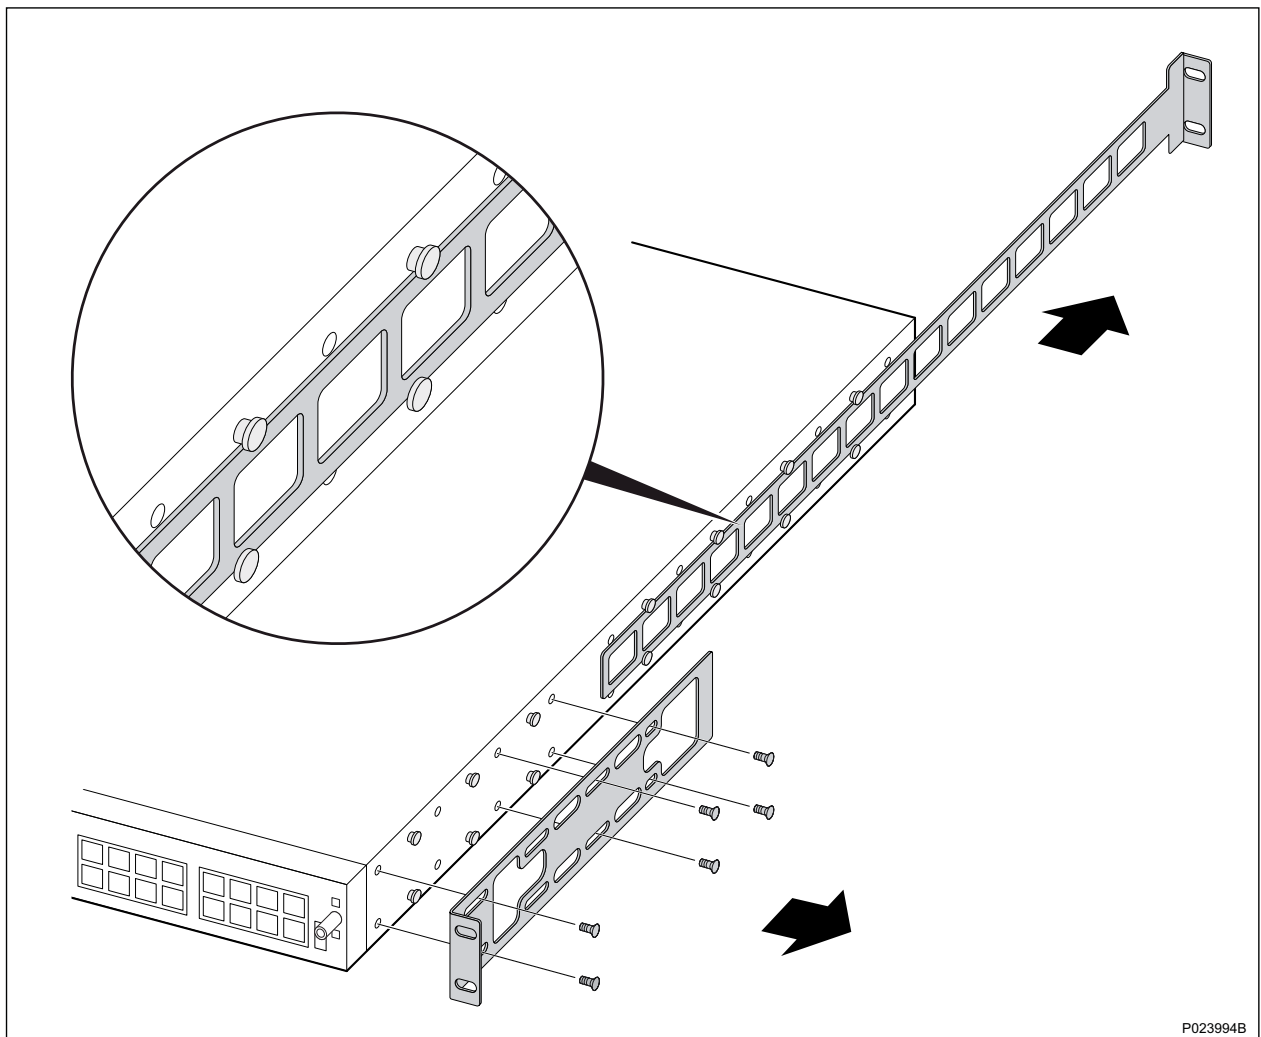

Figure 1 Removing the Mounting Brackets
14. When the faulty switch is removed from the cabinet, remove the mounting brackets from both sides of the switch. Figure 1 shows the removal from one side.